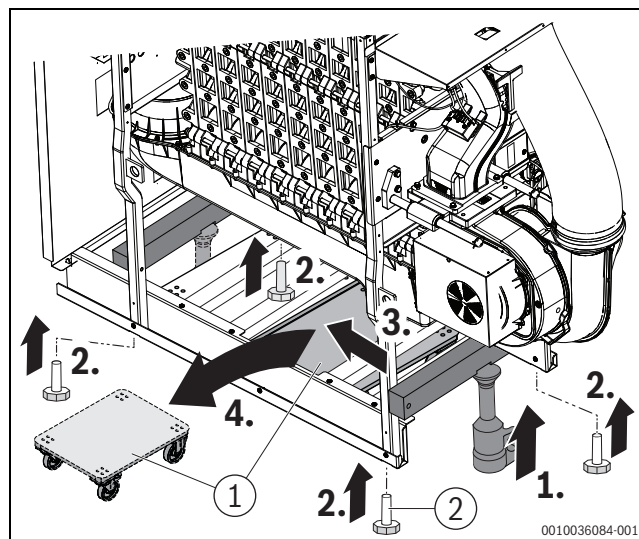

Fig. 16 Remove the transport rollers, mount the adjustable feet (example for illustration purposes)
- Once the boiler is located at the final installation location, screw in the 4 boiler feet to the traverses on the side (→Fig. 16).
(→Fig. 16)